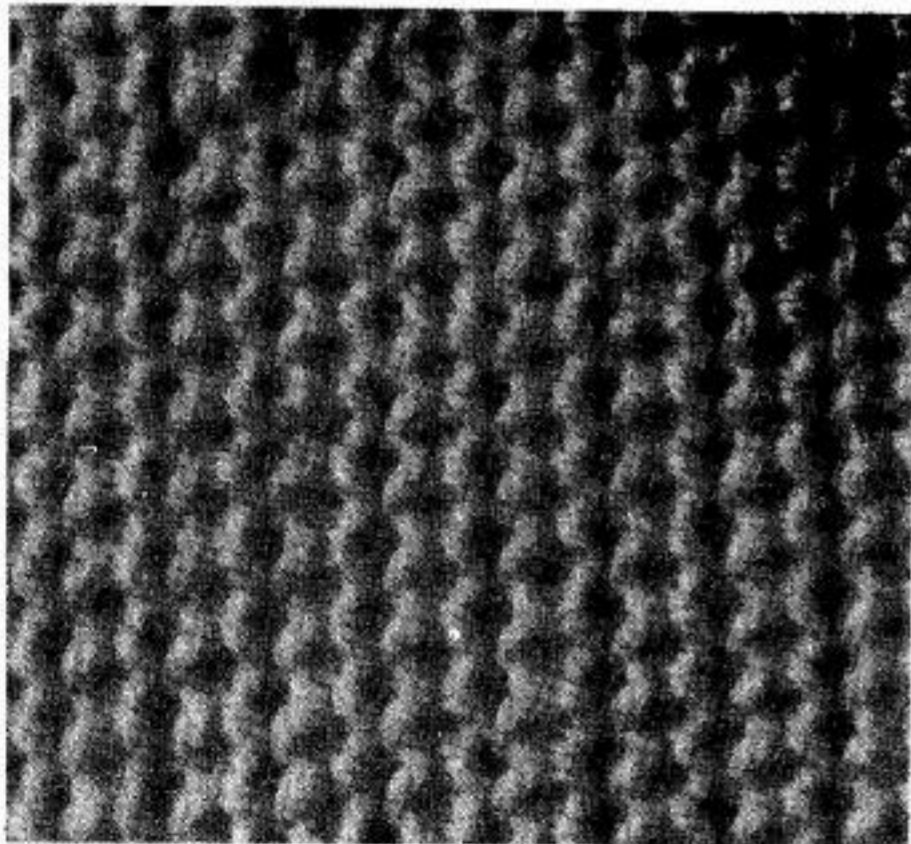

Fig. 56
**Pattern No. 1 (Fisherman Type Rib)** ..... Fig. 56